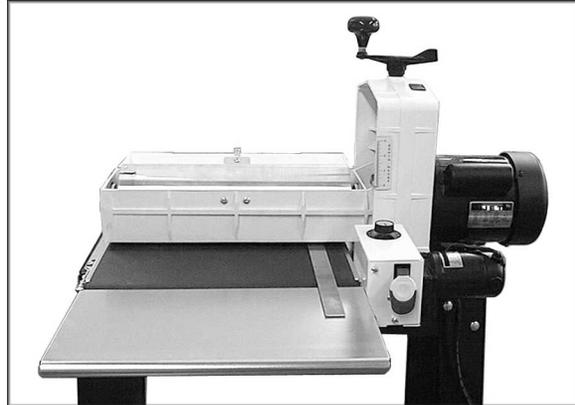

Figure 24
4. Remove thickness gauge and place under drum at the other end (Figure 24). If the drum does not contact the thickness gauge to the same degree as the opposite end of the drum, alignment is necessary.